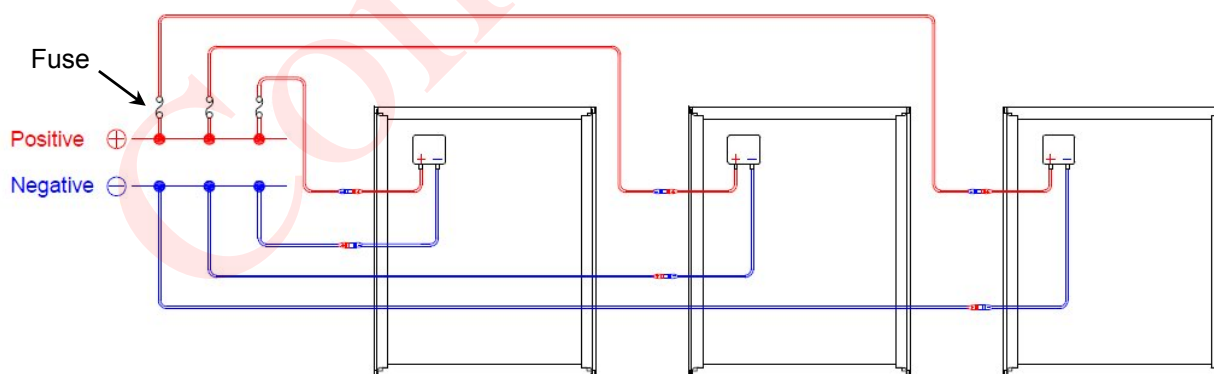

Fig.10 Parallel connections
- PV modules can be wired in parallel to increase current. Connect cables from the positive(+) / negative(-) terminal of one module to the positive(+) / negative(-) terminal of the next module (Fig. 10).